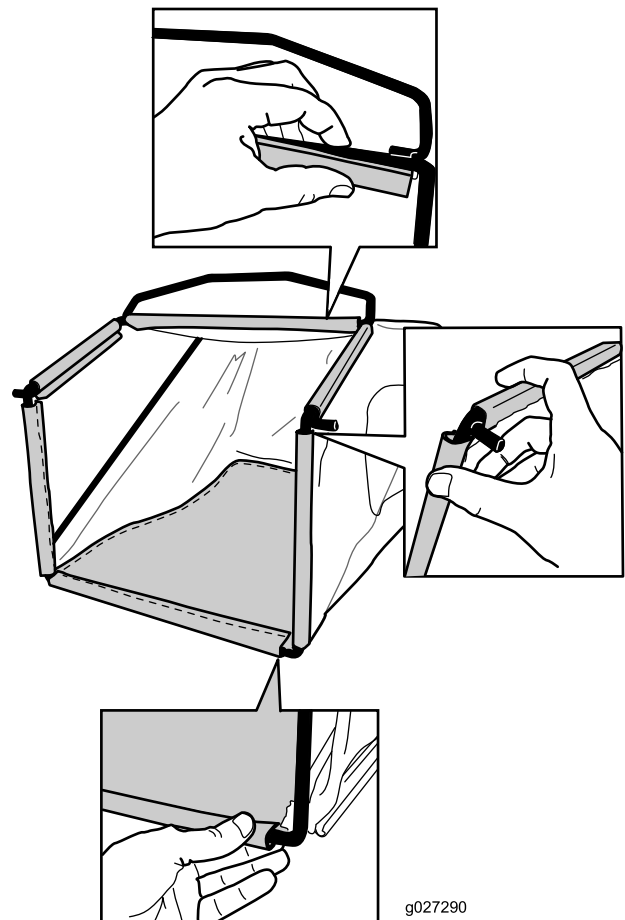

Figure 10
2. Hook the bottom channel of the bag onto the bottom of the frame (Figure 10).
3. Hook the top and side channels of the bag onto the top and sides of the frame, respectively (Figure 10).